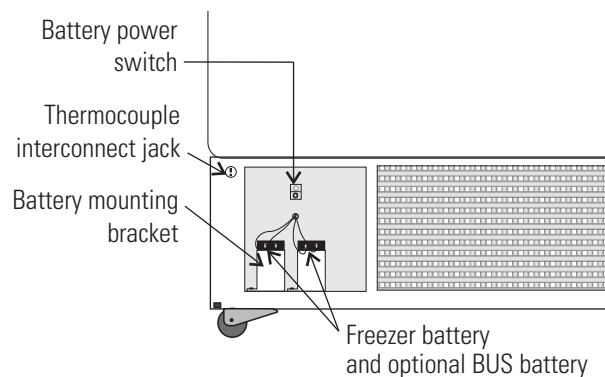

Figure 4-1. Component Locations
2. Locate the grille on the door. See Figure 4-1. Grasp the middle of the grille material and gently pull out to remove.
1. Open the front lower door by grasping the bottom left corner. See Figure 4-1.
3. Turn off the battery switch (O). See Figure 4-1.